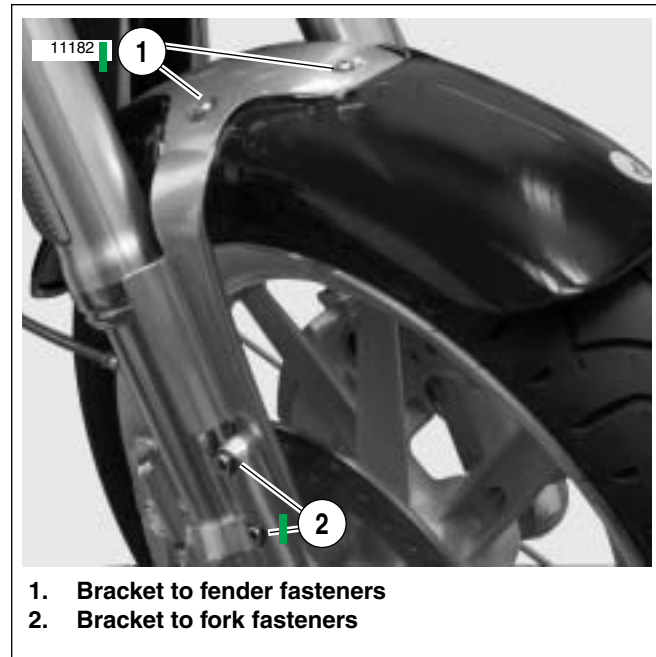

Figure 2-102. Front Fender
1. See Figure 2-102. Remove fasteners (1) from front fork and remove fender and bracket.
2. Remove fasteners (2) that hold bracket to fender and separate bracket and fender.
1. See Figure 2-102. Attach fender to fender bracket. Tighten fasteners (1, 2) to 4.1-6.8 Nm (36-60 in-lbs).